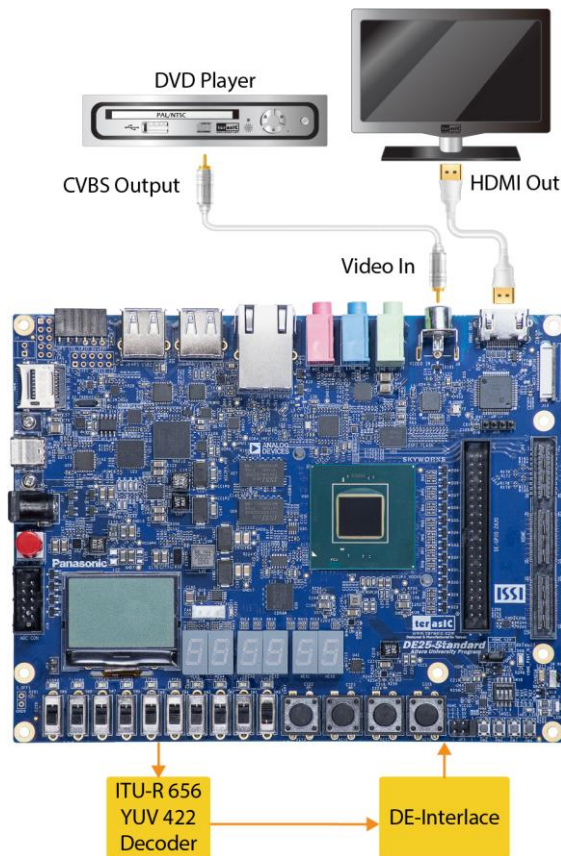

Figure 2-28 Setup for the TV box demonstration
1. Connect a DVD player's composite video output (yellow plug) to the Video-in RCA jack (J8) on the DE25-Standard board, as shown in **Figure 2-28**. The DVD player has to be configured to provide:
5. **Figure 2-28** Setup for the TV box demonstration